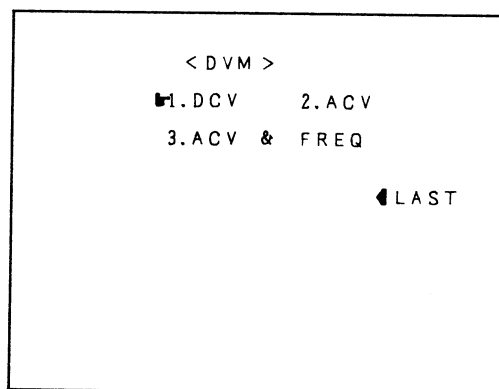

Fig. 8-7
- 2) Press the 3 key, and the display in Fig. 8-7 appears.